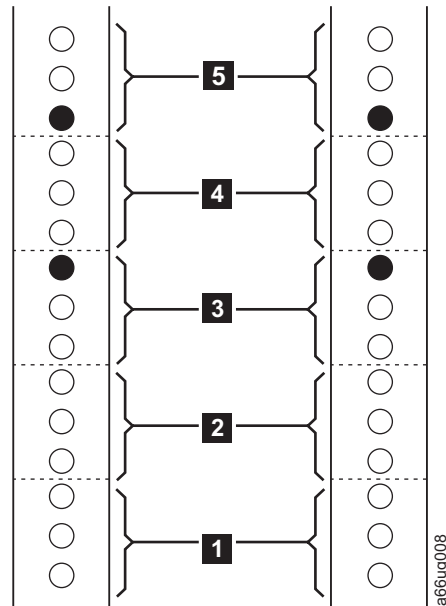
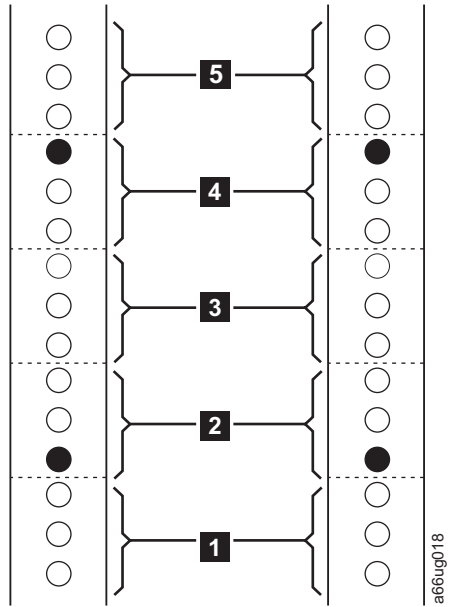

Figure 3-13. EIA identification and rail stud locations for FRONT vertical rack rails
Figure 3-14. EIA identification and rail stud locations for REAR vertical rack rails
An industry-standard rack will have 3 mounting holes for each EIA increment (see Figure 3-13 on page 3-15).
1. Using a pencil, make a mark below the first hole (**1** in Figure 3-13 and **1** in Figure 3-14 on page 3-16) in each of the five EIAs you've selected for the rails in each vertical rail in your rack.
2. Locate and mark the holes that will receive the rail studs as indicated by the black filled circles in Figure 3-13 and Figure 3-14 on page 3-16. The rail studs are located on the front and back of each rail included in the Rack Mount Kit.
- Top hole of the third EIA (**3** in Figure 3-13).
- Bottom hole of the fifth EIA (**5** in Figure 3-13).
- Bottom hole of the second EIA (**2** in Figure 3-14 on page 3-16).
- Top hole of the fourth EIA (**4** in Figure 3-14 on page 3-16).
- Top hole of the first EIA (see Figure 3-13 on page 3-15)
- Top hole of the second EIA in the vertical rack rails (see Figure 3-13 on page 3-15)